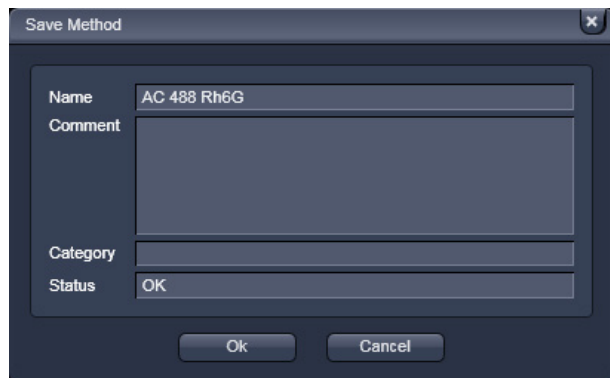

Fig. 334 Save Method panel
- Click on the **Store** to open the **Save Method** panel (Fig. 334). Click again to close the panel.
(2) Loading a method